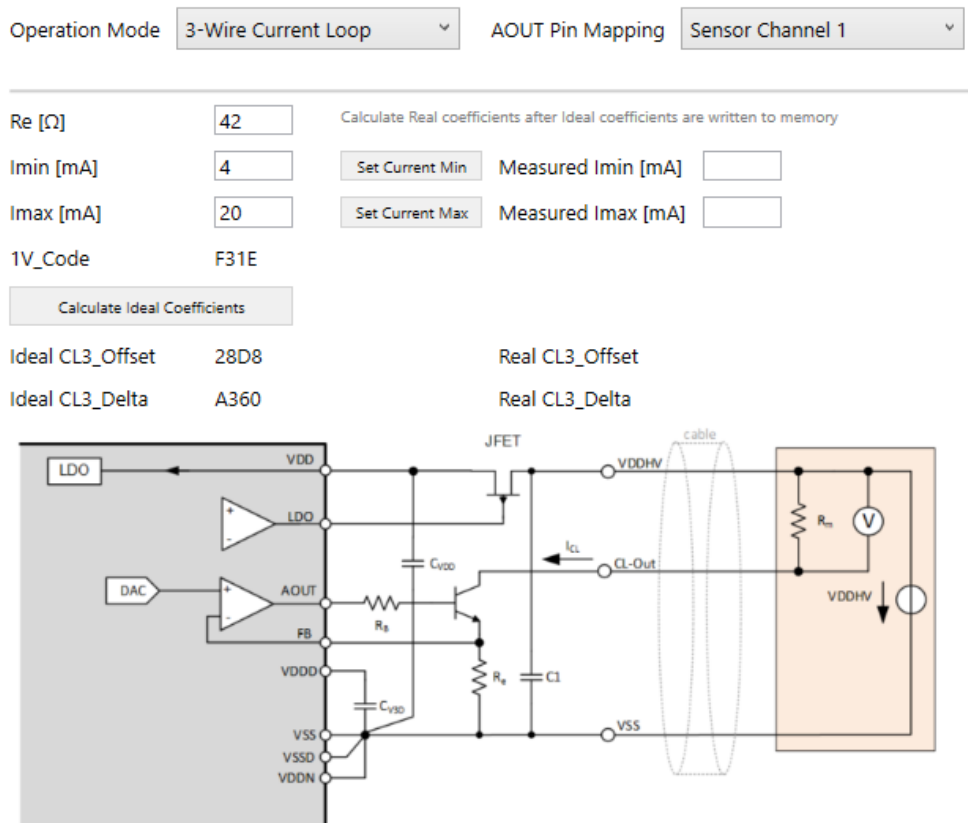

Figure 132. 3-Wire Current Loop Calibration
2. Click the 'Calculate Ideal Coefficients' button (see Figure 132).